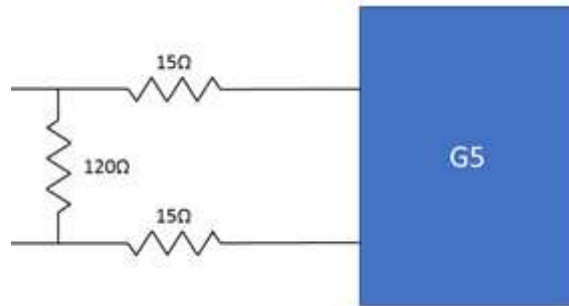

Figure 3-6 CAN Bus Termination for G5 on MIL-C-27500 Wire
- If a G5 is installed using shielded twisted-pair cable, MIL-C-27500, is at the end of the CAN bus backbone, and the installation is not using a LPM a 120Ω resistor is installed in the wiring harness (Figure 3-6) to terminate the CAN bus.